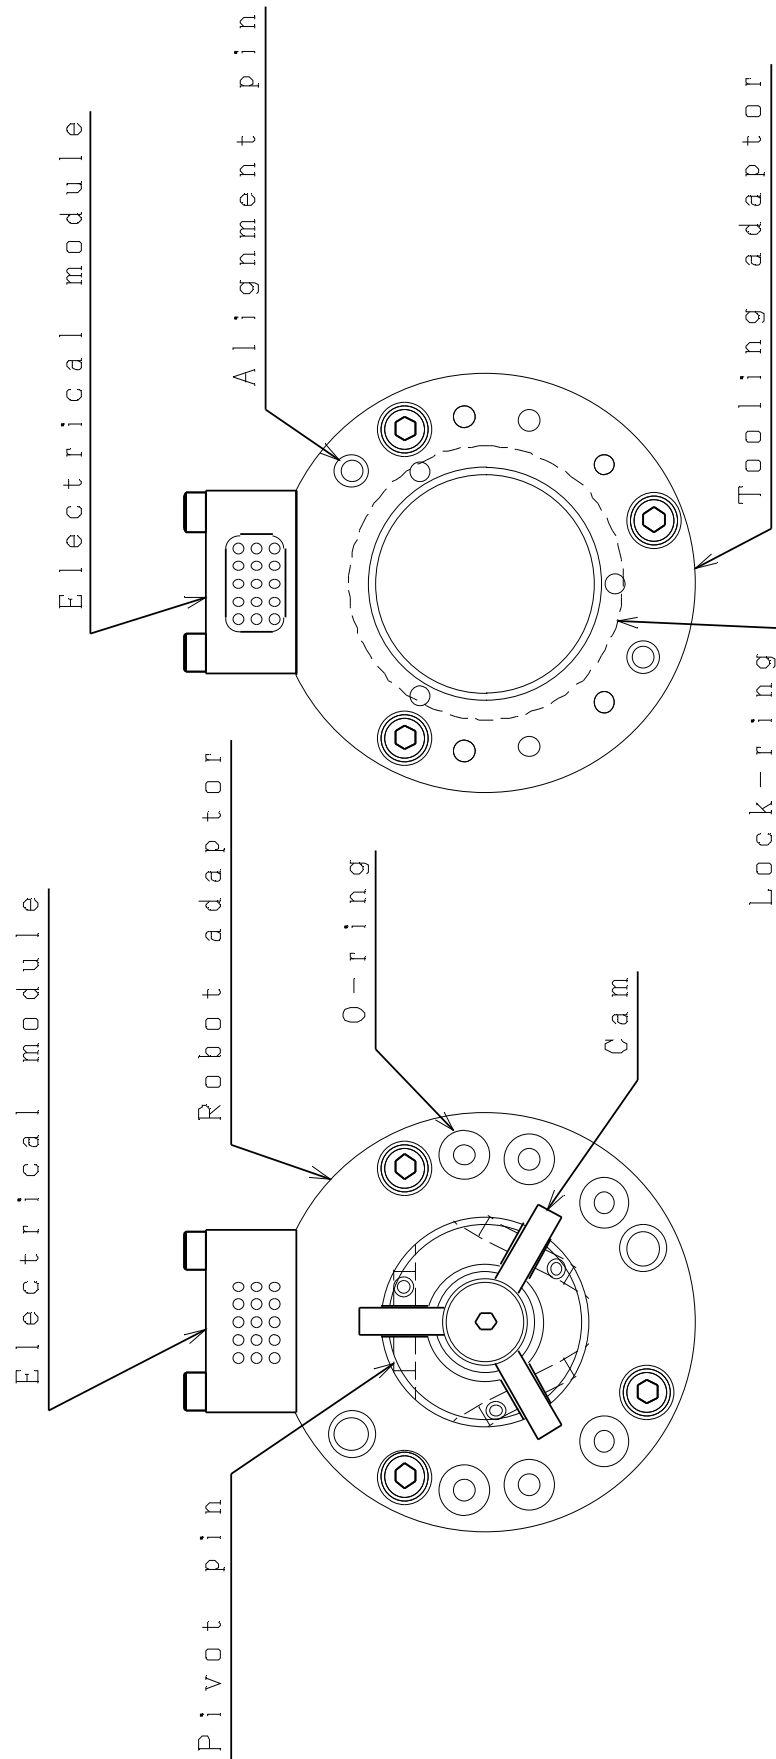

Fig. 4. Part names
**⚠ CAUTION** Robot side cables must be securely tied together with other cables and tubes and fixed around the robot adaptor's connector part by using a spiral tube or banding band, etc. Also ensure that cables and tubes are free of any excessive force while the robot's wrist axis is rotating. Excessive force applied onto cables and tubes may break a connector of the joint part or cause open-circuit. An example of cable fixing by a bracket is shown in Fig. 4.